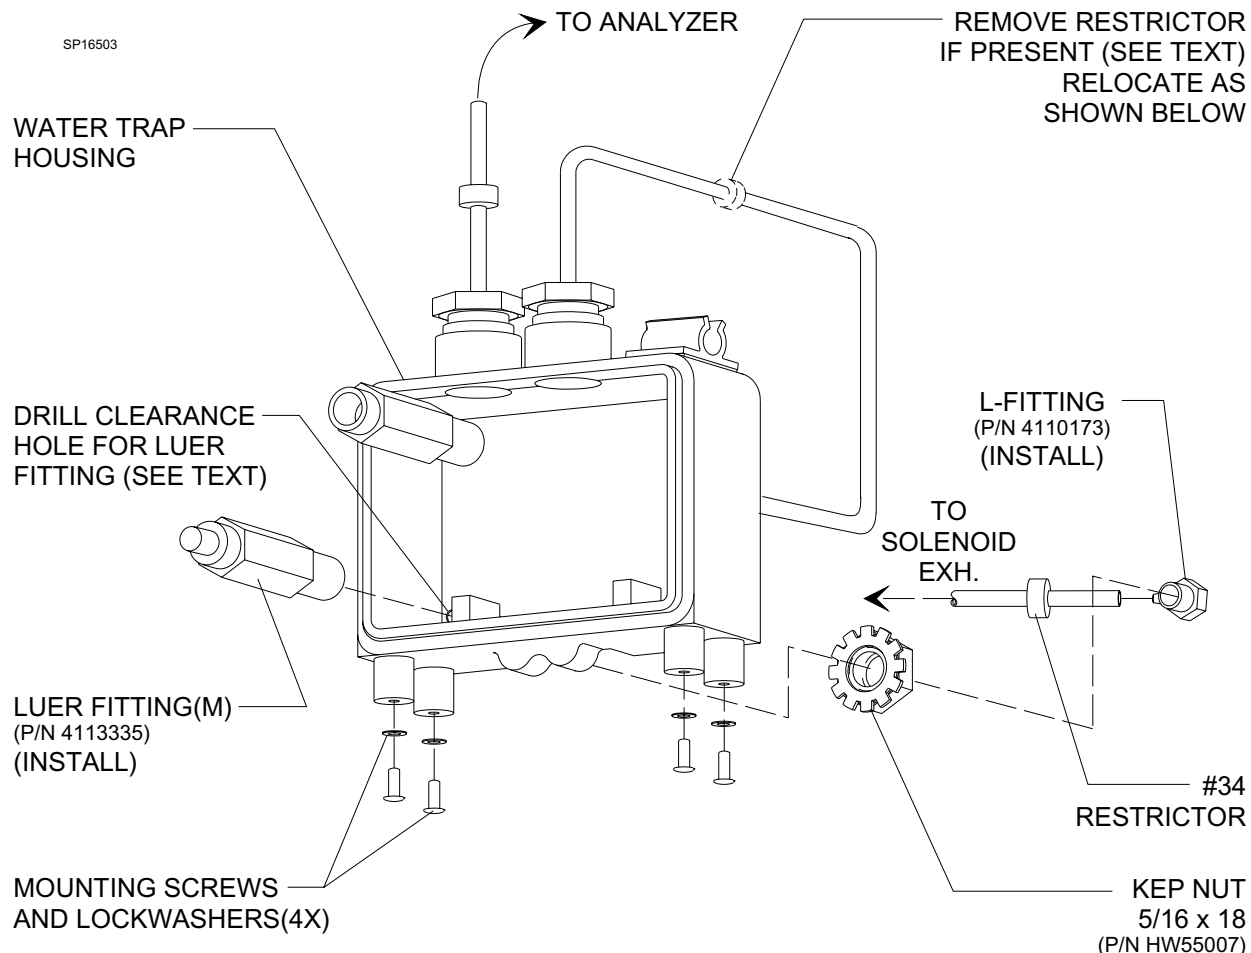

Figure 3: NARKOMED 4 WATER TRAP HOUSING ASSEMBLY DETAILS
19. Install the new Luer (M) fitting (P/N 4113335) in the housing, with a 5/16-18 kep nut (P/N HW55007).
20. Apply a small amount of Loctite #425 (blue) to the threads of the new L-fitting (P/N 4110173), and thread the fitting into the back of the Luer fitting until snug. Orient the fitting as shown in Figure 3. DO NOT overtighten the fittings.
21. Connect the tubing from the solenoid to the new L-fitting. There should be a #34 flow restrictor in this line as shown in Figure 3.
22. Inspect the tubing between the top right brass fitting (see Figure 3) and the upper L-fitting, and determine whether it has a brass flow restrictor.
If a restrictor is present in this line, transfer it to the tubing connected to the lower L-fitting: cut the tubing one inch from the L-fitting and insert the restrictor. See Figure 3.